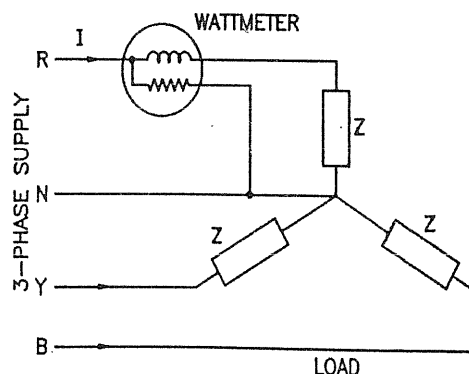

FIG. 2.87 : MEASUREMENT OF POWER USING ONE WATTMETER
- Its current coil is connected in one line and the pressure coil between line and the neutral point as shown in Fig. 2.87.
- First method Fig. 2.87 and second method Fig. 2.88(a) of power measurement can only be used for star-connected loads.